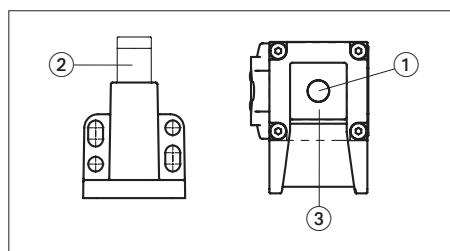

Figure 1: Read head and actuator
The read head contains a plunger (1) that lifts the actuator over the recess during manual release (see Figure 1). The actuator has a spring-mounted guard locking pin (2) in which there is a transponder. Guard locking is active when the plunger is retracted and the guard locking pin is in the recess (3) of the read head.